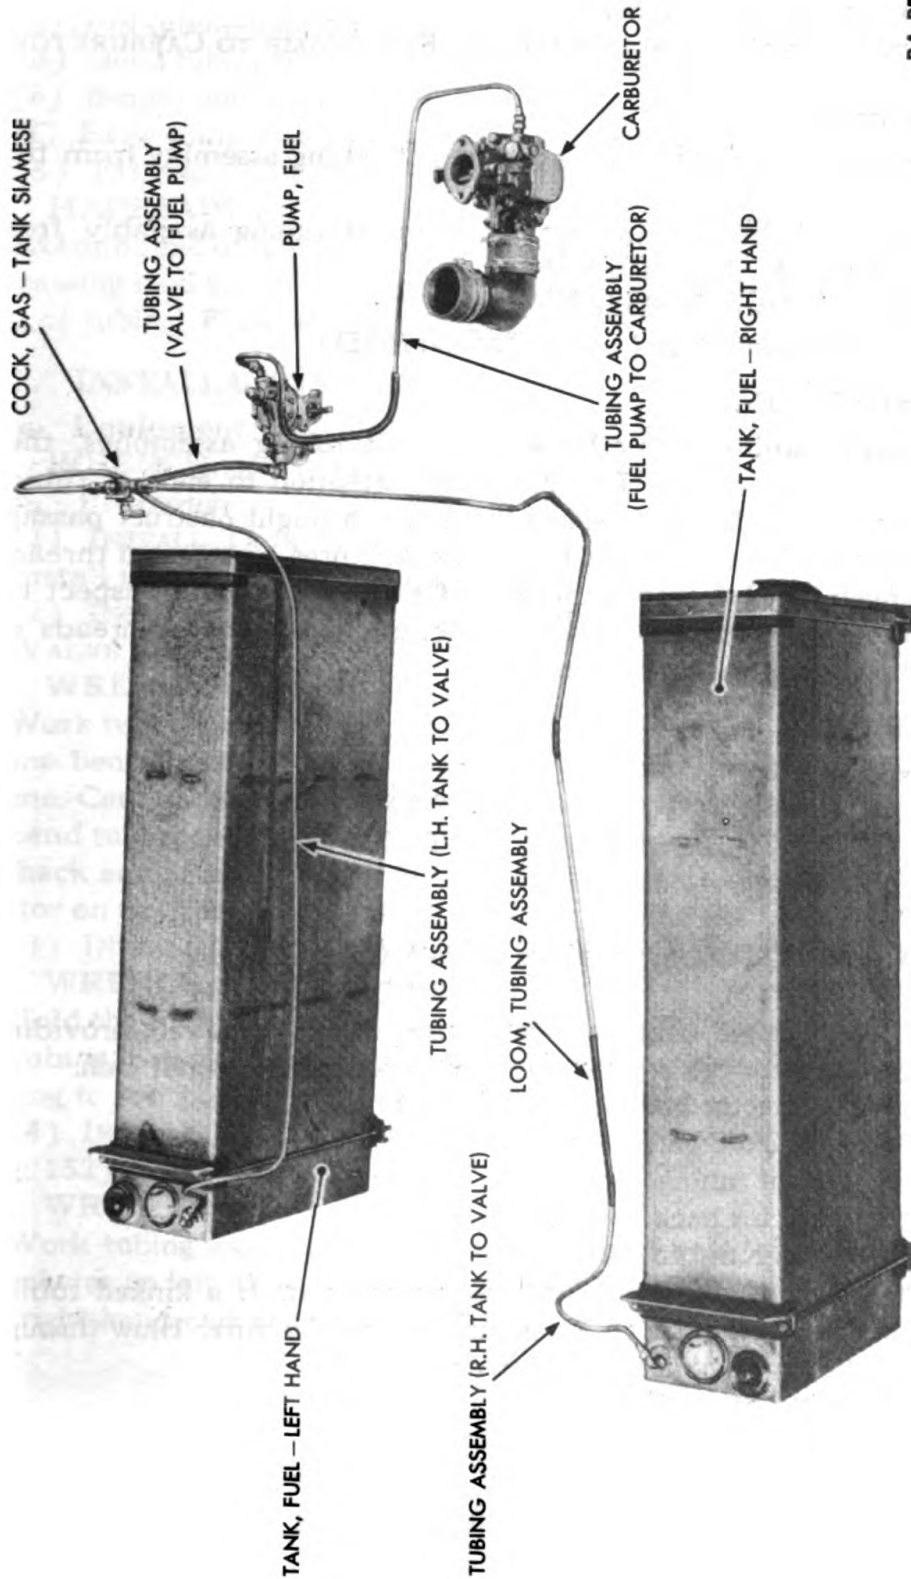

Figure 152—Gasoline Piping System
(1) REMOVE THE TUBING ASSEMBLY (RIGHT-HAND OR LEFT-HAND TANK TO VALVES) (fig. 152).
(2) REMOVE THE TUBING ASSEMBLY (VALVE TO FUEL PUMP) (fig. 152).
(3) REMOVE THE TUBING ASSEMBLY (FUEL PUMP TO CARBURETOR) (fig. 152).
(2) INSTALL TUBING ASSEMBLY (RIGHT-HAND OR LEFT-HAND TANK TO VALVE) (fig. 152).
(3) INSTALL TUBING ASSEMBLY (VALVE TO FUEL PUMP) (fig. 152).
(4) INSTALL TUBING ASSEMBLY (FUEL PUMP TO CARBURETOR) (fig. 152).